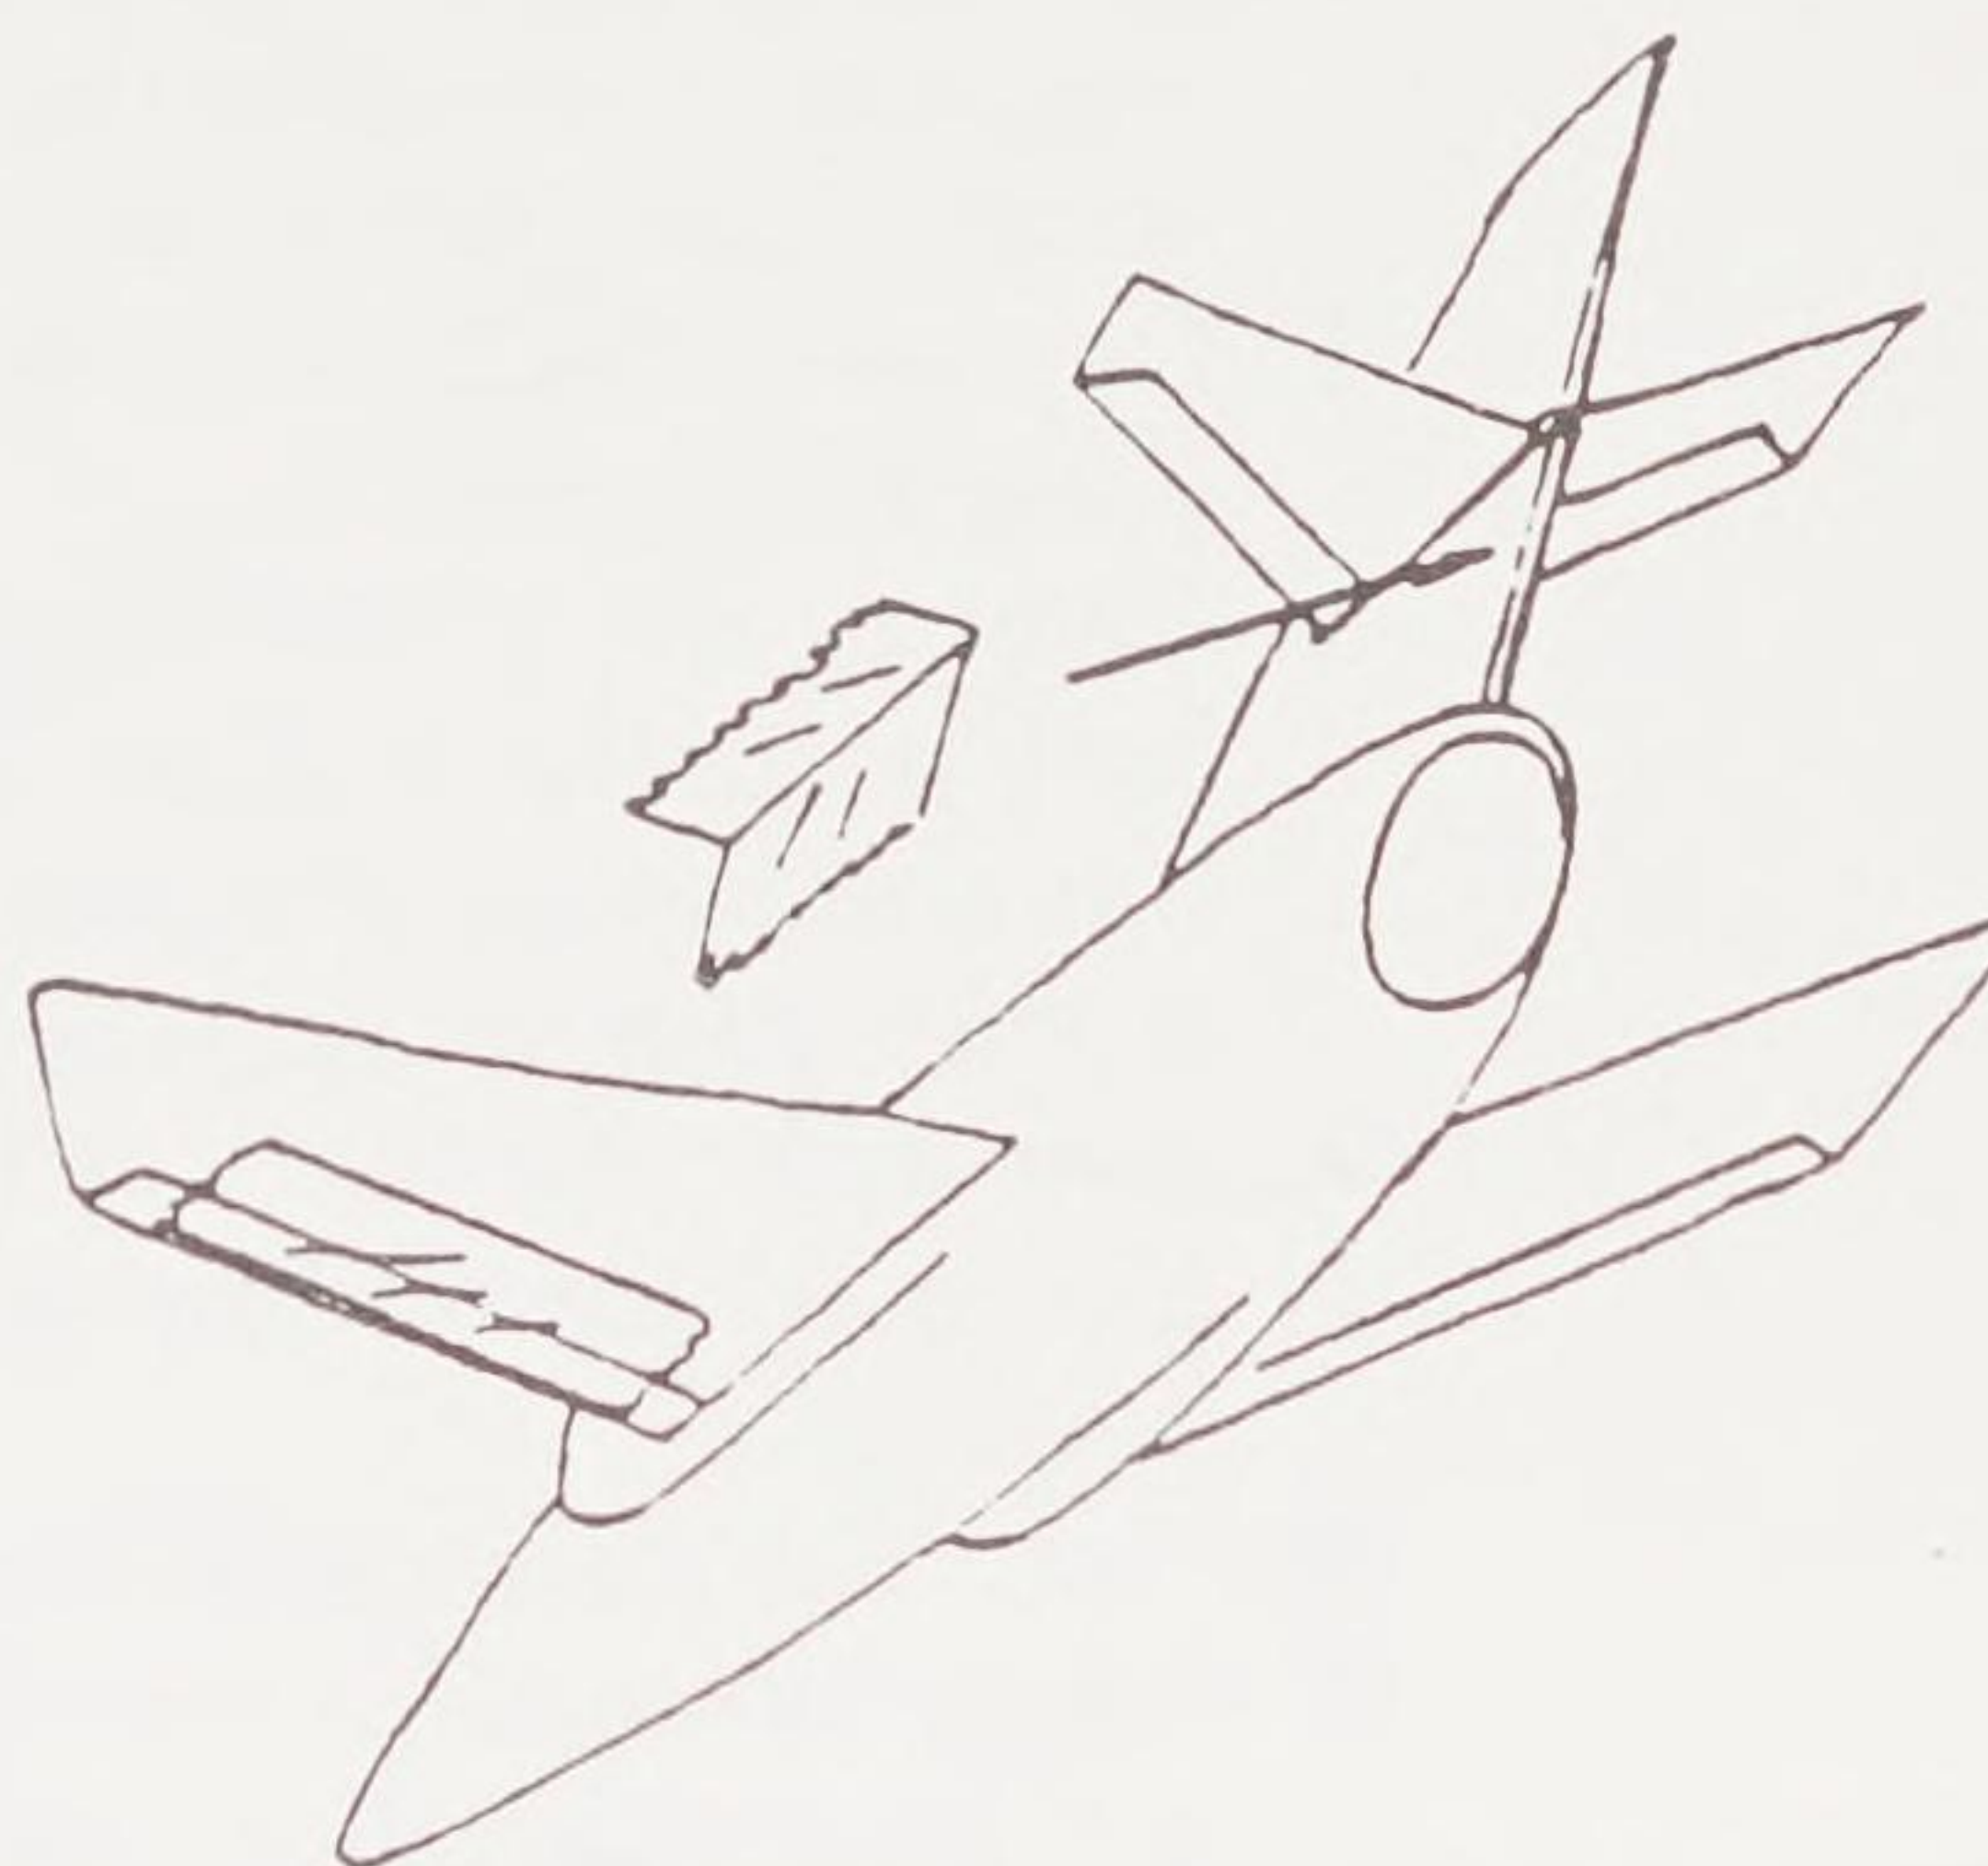

Fig. 20. The Etendard has a "semi T-tail" with the stabilizer inserted into the slot cut for it halfway up the vertical fin. Use creased pieces of tape.
- 6 Check the incidence of slots for the tail and insert the stabilizer into vertical fin. Use creased pieces of tape to secure the stabilizer to the fin. (FIG. 20)
- 6 Check the incidence of slots for the tail and insert the stabilizer into the vertical fin. Use creased pieces of tape to attach it to the vertical fin. Refer to FIG. 20 for the positioning of the horizontal stabilizer.